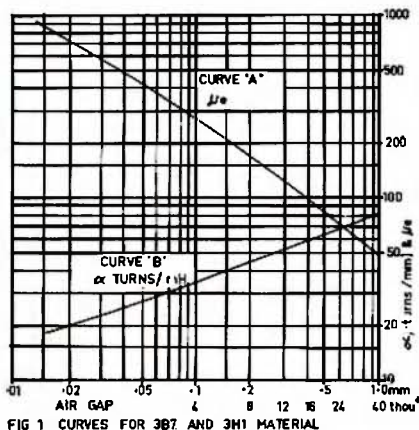

FIG 1 CURVES FOR 3B7 AND 3H1 MATERIAL
2. This permeability value will be obtained (from Curve A of Fig. 1) with an air-gap of 0.2 mm. (approximately 8 thous.).
3. Curve B of Fig. 1 gives the number of turns/mH. = $45 = \alpha$.